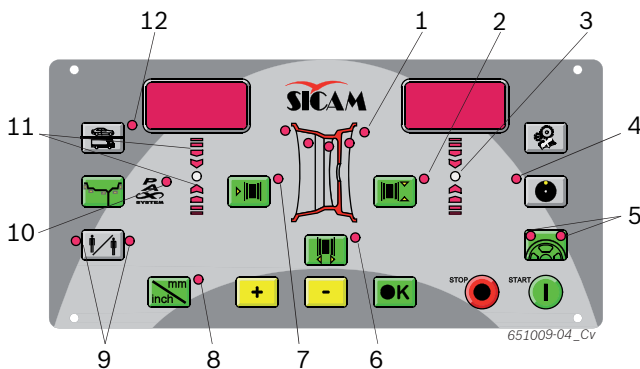

Fig. 4: LEDs on control/display panel
- ➔ The LEDs (Fig. 4, Item 1) indicate the positions of the balancing planes for each balancing program.
If a PAX balancing program has been selected, the pax LED also lights (Fig. 4, Item 10).
2. Select the rim distance determined by way of the <-> or <+> rim distance key (Fig. 4, Item 7).
4. Select the measured rim width using the <-> or <+> button for rim width (Fig. 4, Item 6).
6. Select the rim diameter determined by way of the <-> or <+> rim diameter key (Fig. 4, Item 2).
- ⇒ Both LEDs of the **<SPLIT>** key (Fig. 4, Item 5) light.